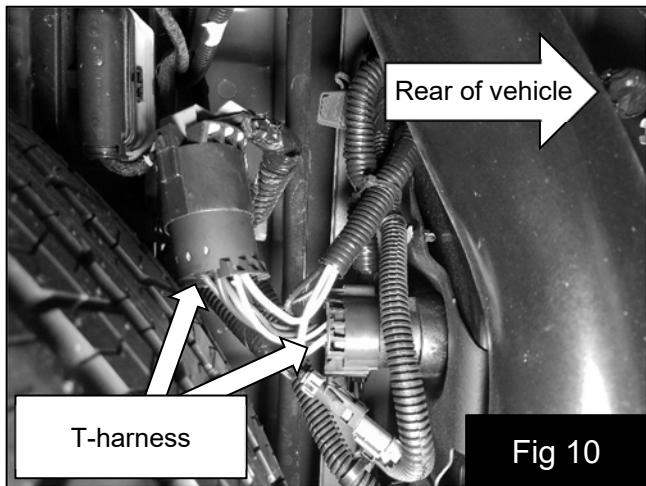

Fig 10
15. Disconnect the trailer connector and install the T-harness between the trailer connector and the factory harness. Connect the two-pin connector of the T-harness to the amplifier harness. Fig 10